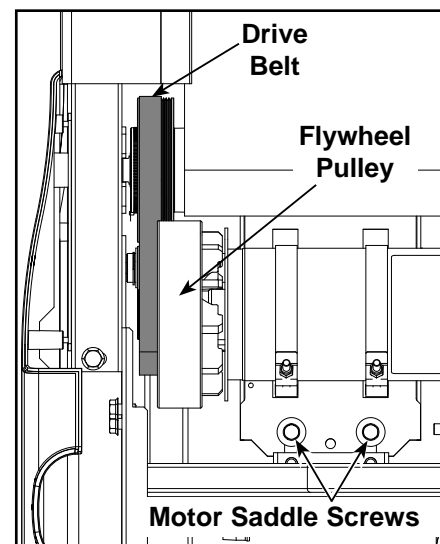

Figure 10
- A. Using a 1/2" socket wrench, loosen but do not remove the two screws on the motor saddle. See Figure 10.
- A. If you are changing the drive belt, slip the drive belt around the flywheel pulley and off the motor. See Figure 10.
- A. Using a 1/2" socket wrench, tighten the two screws on the motor saddle. See Figure 10.